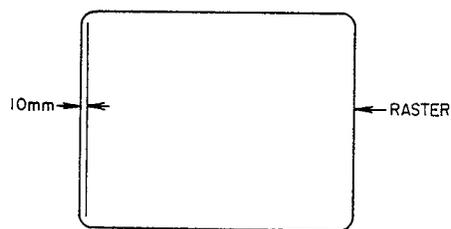

Fig. 8
- (a) Set monitor to under-scanning condition (so that a portion of the raster can be seen on monitor screen). (See Fig. 8)